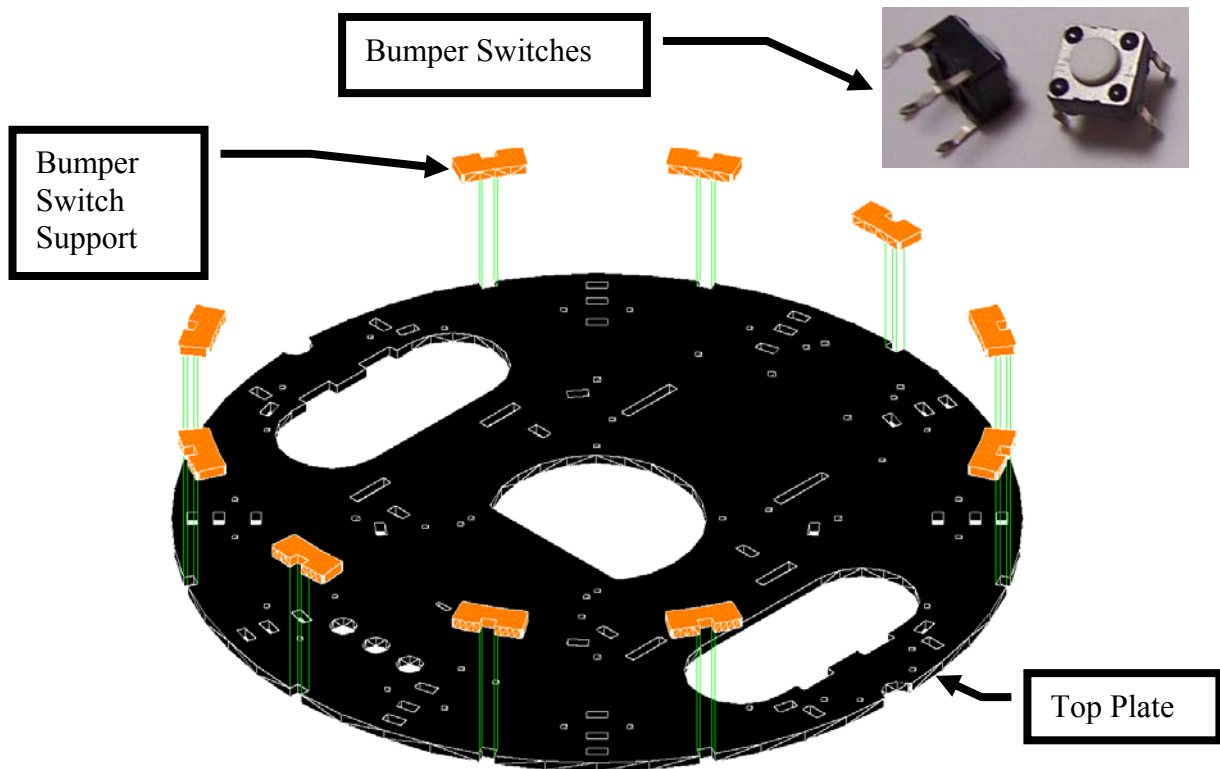

Figure 50. Superglue 10 bumper switch supports to the BOTTOM of the *Top Plate*.
1. The bumper switches and switch supports must be glued to the bottom of the *Top Plate* (Figure 50, Figure 51, and Figure 52) before wiring (Figure 53) the 5 front (top of figure) and 5 rear bumper switches on the TALRIK-IV.